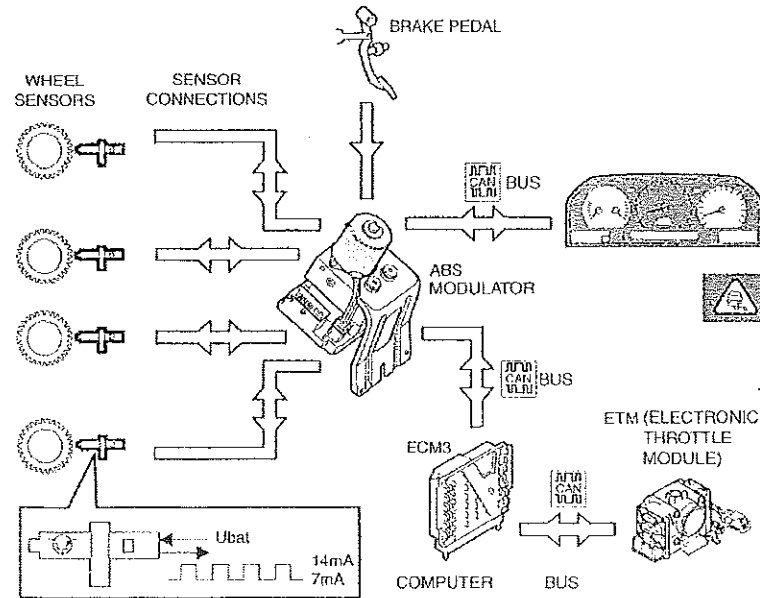

Figure Q05(a)
- (a) Main components of an ABS system are shown in Figure Q05(a). Explain the operation of all major sensors and the ABS modulator.
- (c) The configuration of a three cylinder two stroke engine is shown in figure Q05(b). Determine the magnitudes and directions of,